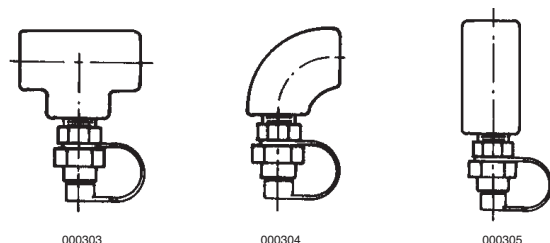

FIGURE 14
7. Make certain a blow-off cap is in place over each nozzle tip. These blow-off caps are designed to keep grease from building-up on the nozzle orifice and inhibiting the agent flow. See Figure 14.